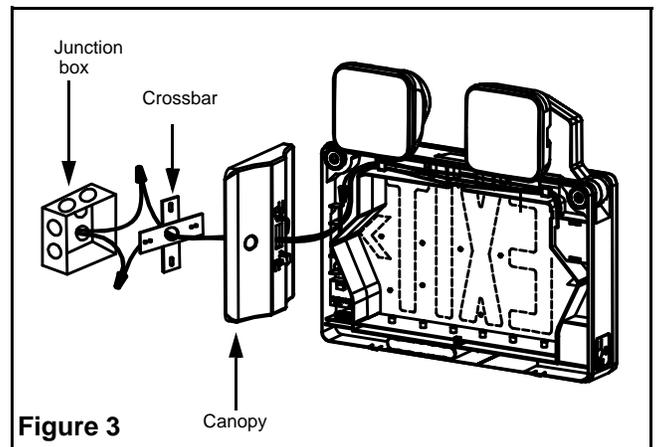

Figure 3
- b. Remove the mounting hole cover from the top or side of the unit depending on your mounting configuration (see figures 3 or 4).